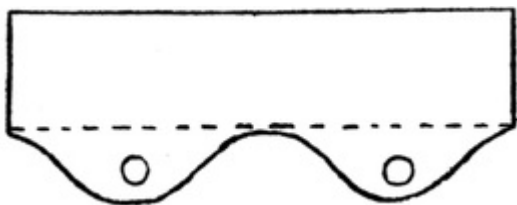

FIG. 4
(1) The wheels can be rigidly fixed to the axle—that is, a match end is pushed tight into the cardboard wheel and the axle is free to turn in loose bearings, as in Fig. 4, fixed under the cart or other vehicle or to the sides. These bearings can be cut from cardboard or cartridge paper.
In Fig. 4 the paper is bent at a right angle along the dotted line, and the rectangular portion is gummed under the cart. If the rectangular portion is gummed to the side of the cart no bend is needed. The parts of the match sticks that pass through the holes must be rounded with